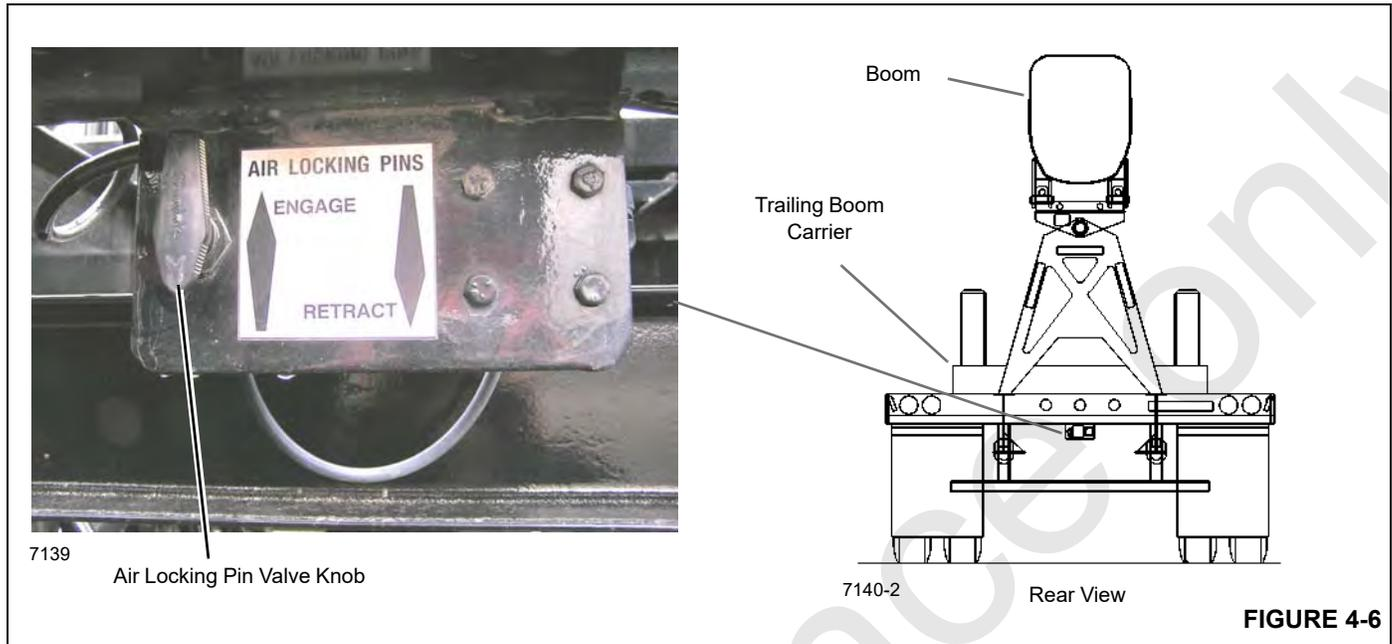

FIGURE 4-6
5. Make sure that the Air Locking Pin Valve knob at the rear of the trailing boom carrier is turned to the RETRACT position. Refer to (Figure 4-6).